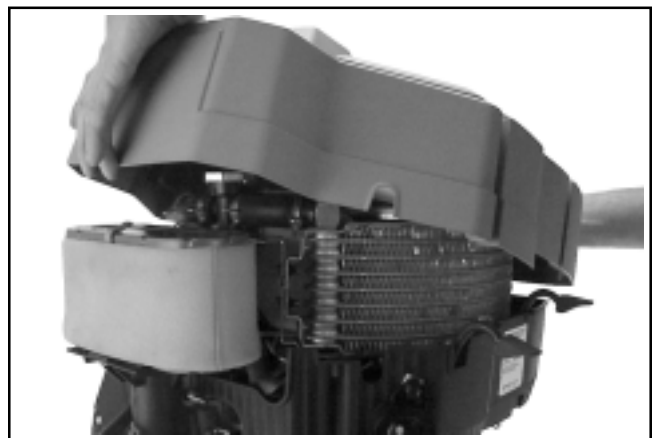

Figure 9-5. Removing Upper Blower Housing.
1. Unhook the four retainer straps and lift off the upper housing and screen assembly. The screen assembly may be unsnapped from the underside and separated for servicing if required. See Figures 9-5 and 9-6.